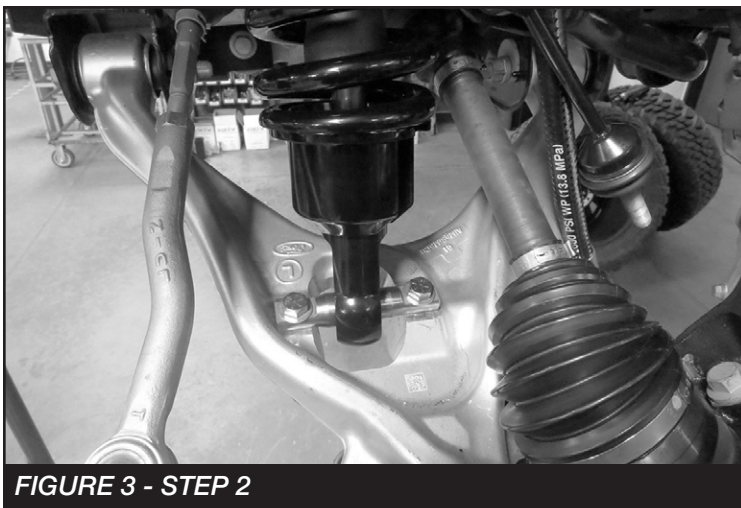

FIGURE 3 - STEP 2
2. Attach the lower coilover to bar pin to the lower control arm using the supplied 7/16" hardware. Torque to 70 ft-lbs. **SEE FIGURE 3**